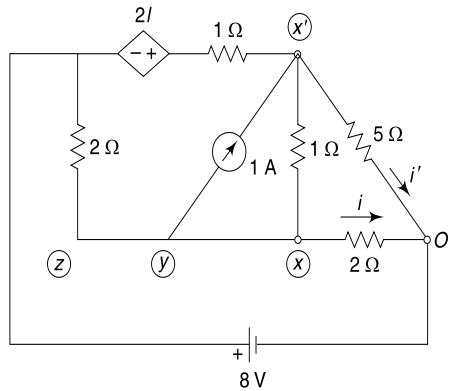

Fig. 4.166 *Circuit of Ex. 4.135*
4.135 Find i and i' the circuit shown in Fig. 4.166. Use node analysis.